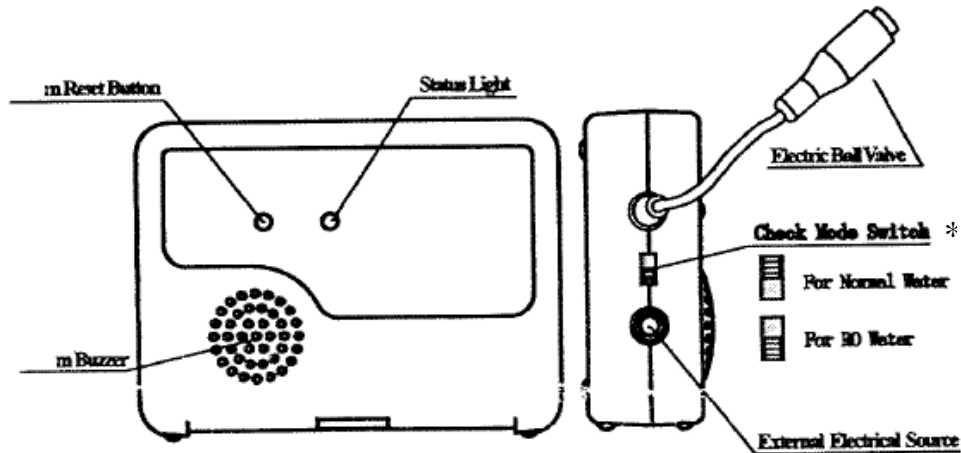

Figure 5 – Water Alarm Valve
- Please choose the correct mode on the mode switch shown in the picture according to the application. In the case of the Bubble-Up® Interactive™, the switch should be in the normal water position. See figure 5*
7. Undo the water inlet line at the point where it meets the air-water coupling below the blower. See figure 5.